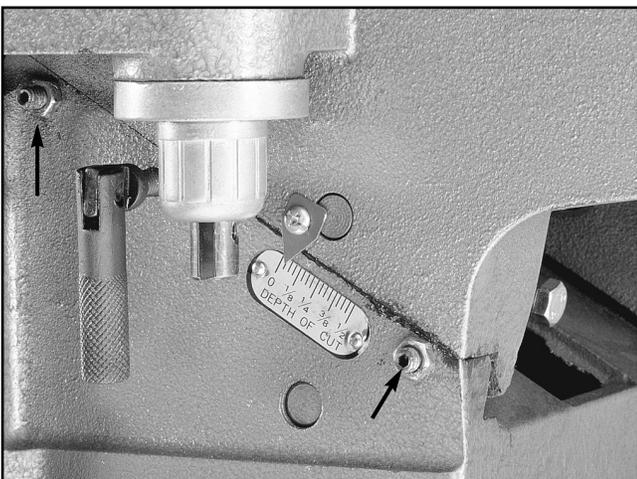

Figure 13. Location of check nuts.
1. Loosen the upper and lower check nuts on the infeed table, leaving the lock handle tight. See **Figure 13**.